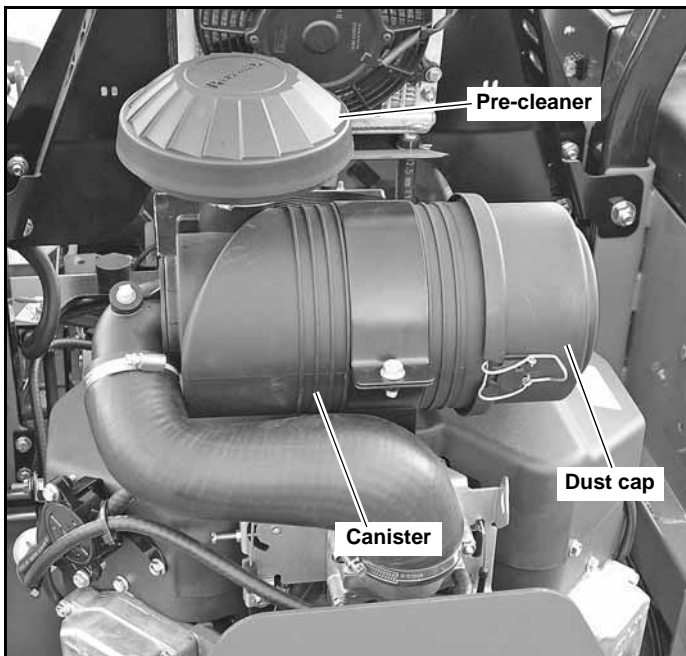

Figure 4-7
A specially designed dry filter is standard equipment on these mowers and supplies clean combustion air to the engine. Figure 4-7
3. Reinstall the dust cup. Make sure it seals all the way around the air cleaner body, then tighten the clamps. Figure 4-7